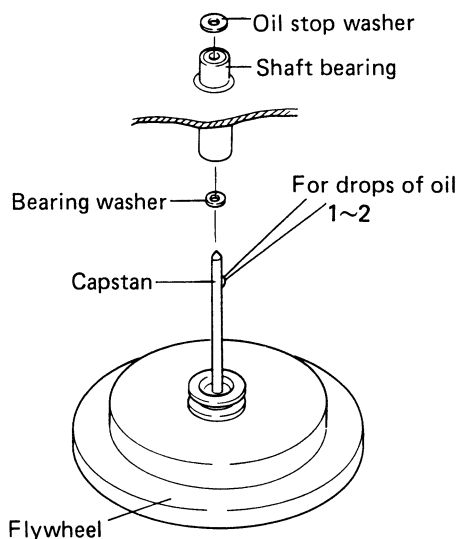

Fig. 3-7 Lubrication of Capstan Shaft
1. Carefully remove the flywheel and lay it down with capstan shaft pointing upwards. Apply a small amount of lubrication oil in the designation position (see Fig. 3-7).